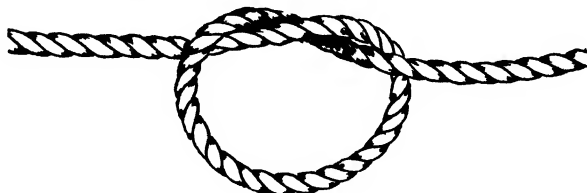

Fig. 8-9. The overhand knot.
Using the Overhand knot Figure 8-9 shows the overhand knot, which is sometimes used as an end knot in a rope, but more frequently as a step or a part of other knots or hitches. It is quickly and easily tied. As an end knot it is somewhat bulky, and after pressure has been applied, it may be difficult to untie.
4. Unlay one strand of the pair not tied, and lay the other strand in its place, twisting it tightly as it is laid (see Fig. 8-32C). When all but about 6 in. of the strand is laid, tie the two strands, using a simple overhand knot (see Fig. 8-9).